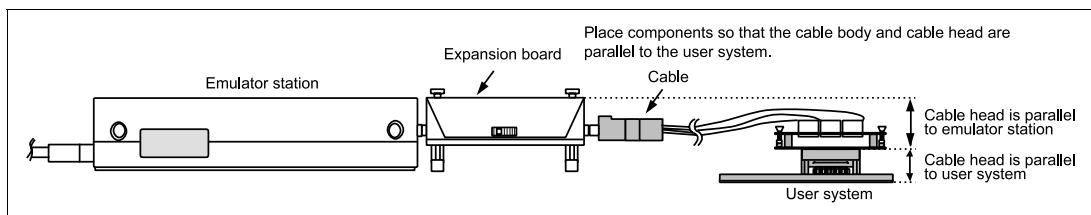

Figure 12 User System Interface Cable Location Example
4. While the emulator station is connected to the user system with the user system interface cable, force must not be applied to the cable head. Position the emulator station, user system interface cable, and user system as shown in figure 12.